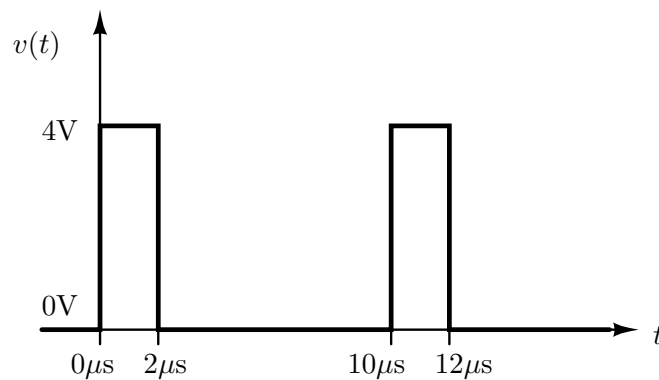
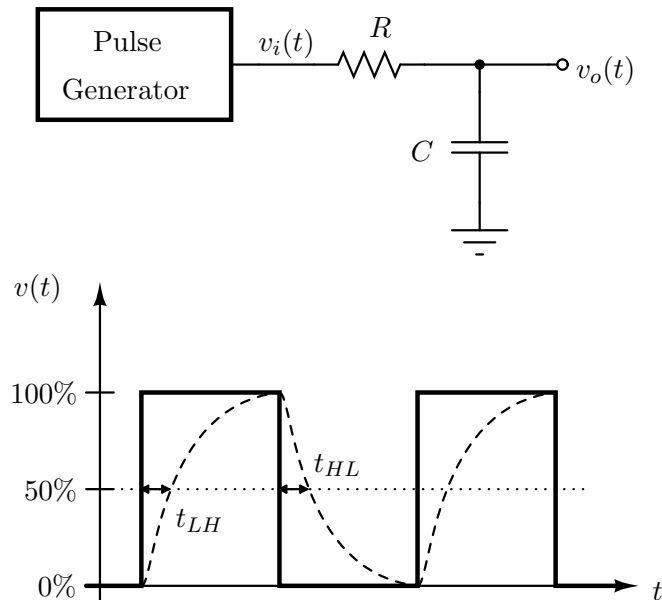

Figure 3:
Figure 5:
3. Connect the pulse generator to the scope using a coaxial cable with each end terminated in a BNC connector. Display the waveform shown in Figure 3 on the scope screen. The waveform shown in Figure 3 is an idealization. In particular, a perfect rectangular (rising and falling edges) waveform cannot be produced by the pulse generator. Use the VOLTAGE key to find V_{pp} , V_{avg} , V_{rms} , V_{max} , V_{min} , V_{top} , and V_{base} . Use the TIME key to find Freq(ueency), Period, Duty Cy(cle), +Width, –Width, RiseTime, and FallTime.
- Construct the circuit shown in Figure 5, using a $1\text{ k}\Omega$ resistor for R and a 47pF capacitor for C . Set the pulse generator to output the waveform depicted in Figure 3. Use the dual trace capability of the oscilloscope to measure the delay of the RC circuit. We will define the delay as the time from when the input voltage changes until the time when the output wave form has switched halfway from its initial to its final voltage levels. Measure both the low-to-high delay, t_{LH} , and the high-to-low delay, t_{HL} .